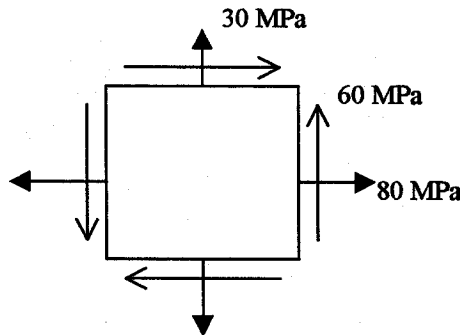

Fig. Q3
3. The stresses at a point in the wall of a thin cylinder are shown in Fig. Q3.